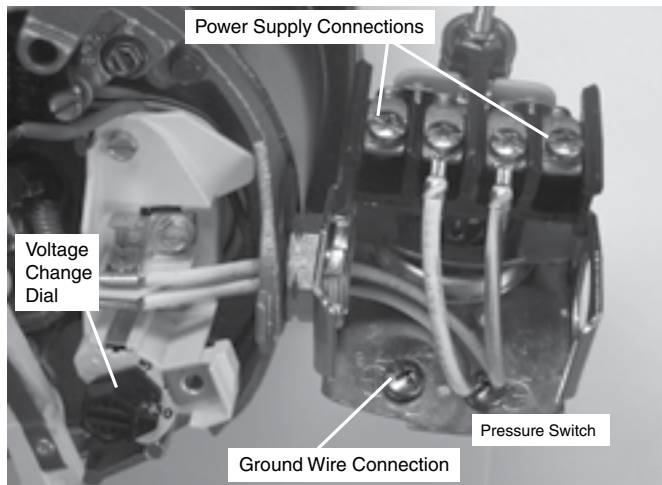

Figure 6: Voltage set to 230 volts, Dial Type
3. Attach the incoming power leads to the two outer screws on the pressure switch as shown in Figure 6.
4. Attach the ground wire to the grounding connections as shown in Figure 6.
- Step 1. Connect the ground wire first as shown in Figure 6. The ground wire must be a solid copper wire at least as large as the power supply wires.
- Step 4. Connect the power supply wires to the pressure switch as shown in Figure 6.